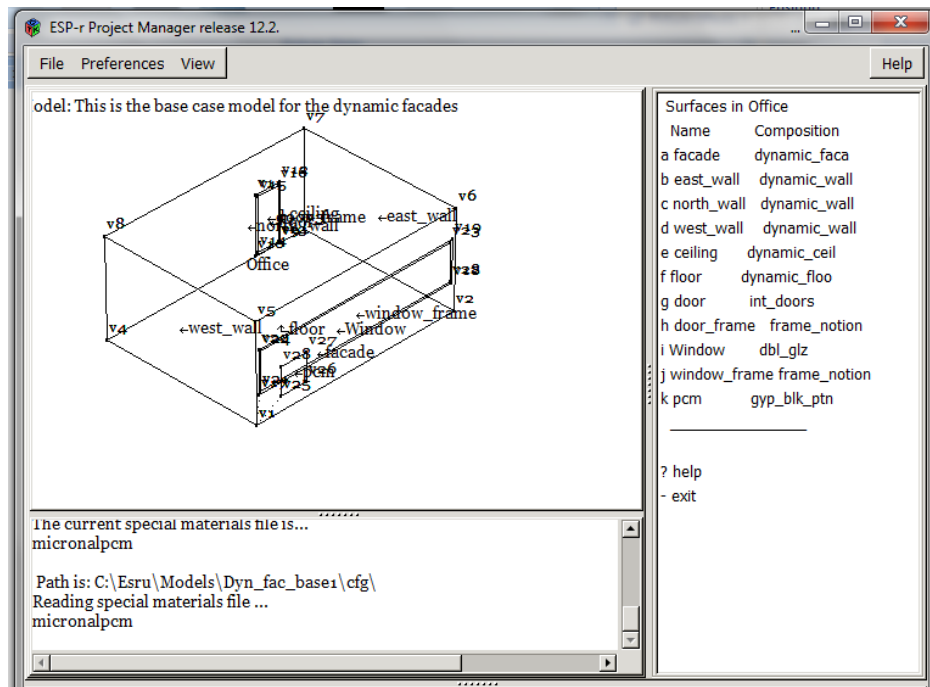

Figure 12
**Step 12:** The user then must choose which area of the room they wish the phase change material to be located in, for our case it was the facade wall but it could be the ceiling or walls etc, so click on the desired location (figure 12).